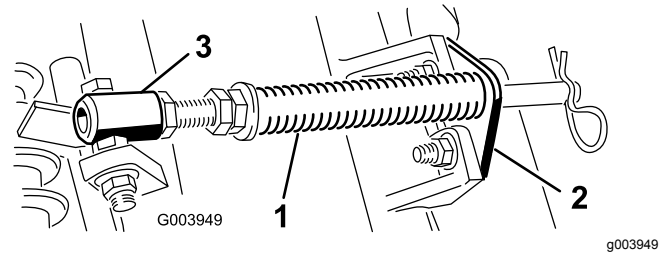

Figure 4
- Remove the 2 carriage bolts and nuts securing the rod bracket to the cutting-unit tabs (Figure 4).
- Remove the flange nut securing the spring-tube bolt to the carrier-frame tab (Figure 4). Remove the assembly.